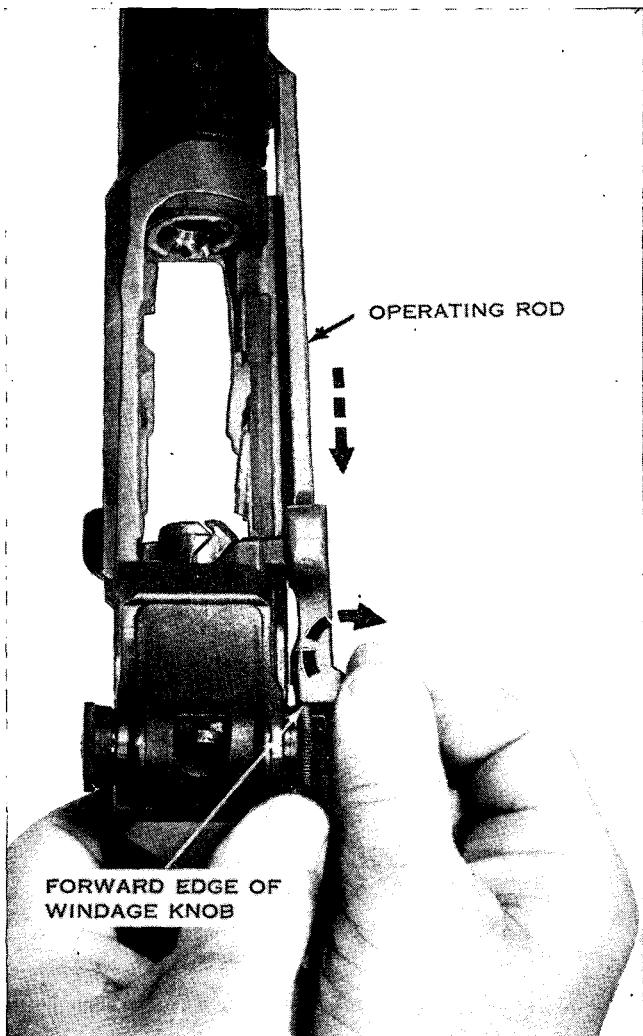

Figure 12. Removing the operating rod.
e. Turn the barrel and receiver group over so that the sights are up, muzzle pointing away from you. With your left hand, raise the rear of the group. With the right hand, pull the operating rod to the rear until the rear of the handle is directly under the forward edge of the windage knob. Grasp the handle with the thumb and forefinger of the right hand; and with an upward and outward pressure, disengage the guide lug of the operating rod through its dismount notch on the receiver. Remove the operating rod (fig. 12).